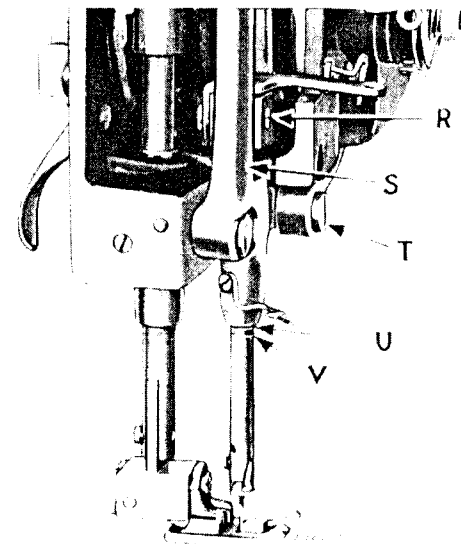
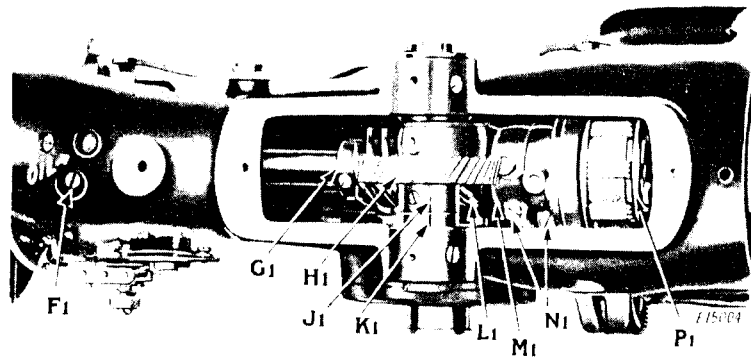
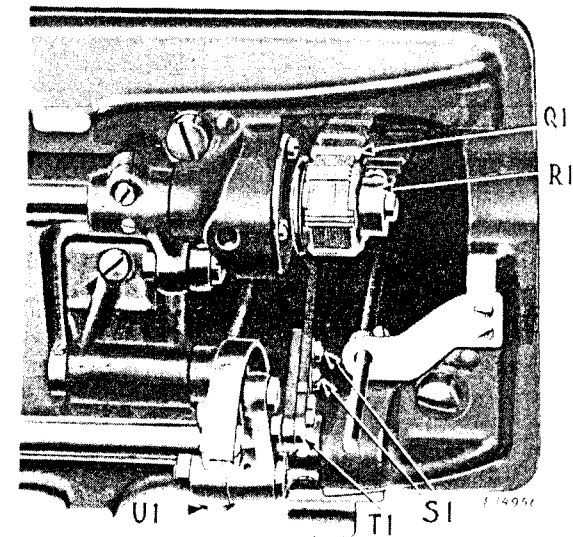

Fig. 20. Face Plate Removed
Fig. 21. Arm Cap Removed
Fig. 22. Return Feed Adjustment
Remove the throat plate and turn the balance wheel over toward you until the LOWER timing mark (V, Fig. 20) on the needle bar is just visible at the end of the needle bar frame (or until the needle has risen $\frac{3}{32}$ inch from its lowest position); if the needle and hook are in correct time, the point of the hook will be opposite the center of the needle.
To time the hook, loosen the set screws in the lower belt pulley (R1, Fig. 22) and turn the hook as required. Before tightening the set screws, see that there is no end play in the shaft.
(S, Fig. 20) stationary (no side movement). A straight needle should now come in the center of the needle hole in the throat plate. If it does not, loosen the set screw which holds eccentric stud (T, Fig. 20) and adjust the stud (T) until it does.
Now turn the needle vibrator regulating spindle head for the widest throw, and turn the balance wheel until the needle bar frame is at its extreme sidewise throw. The frame (S) should commence its sidewise movement at the same time that the needle starts upward from its lowest position. If it does not, the movement of the needle bar frame may be timed by turning the vibrator gear pinion (G1, Fig. 21) on the shaft.
See that the needle is up in the bar as far as it will go. There are two lines $\frac{3}{32}$ inch apart across the needle bar, about two inches above the lower end. When the needle bar is at its lowest position, the upper mark (U, Fig. 20) should be just visible at the lower end of the needle bar frame.
In case the needle bar is not correctly set, loosen the needle bar connecting stud set screw (R, Fig. 20) and move the needle bar to the correct position, then tighten the set screw.
To take up lost motion of the feed driving and lifting connections, adjust their pinch screws (N1, Fig. 21).
To prevent the feed dog from striking either end of the slots in the throat plate, loosen screw (U1, Fig. 22) and move the feed dog forward or backward until the longest stitch can be taken without the feed dog striking, then tighten the screw (U1).
Remove arm cap from top of machine. Turn the balance wheel over toward you until the needle bar frame (S, Fig. 20) is at its extreme left throw and the needle bar at its lowest position. The timing mark (J1, Fig. 21), on the hub of the gear (H1), should now be in line with the timing mark (K1) on the end of the bushing. If the two timing marks are not in line, loosen the screws in spiral pinion (L1, Fig. 21) on the arm shaft and turn pinion (L1) to right or left to bring them in line, then tighten the screws in the pinion.
Turn the balance wheel over toward you until feed control connection (T1, Fig. 22) is at its lowest position; loosen screws (S1) and lengthen connection to get more return feed or shorten the connection for less return feed, then tighten the screws (S1).
Slide the arm shaft connection belt (Q1, Fig. 22) off the lower pulley and lift it off the upper belt pulley (P1, Fig. 21). Loosen the set screws and remove the spot screws in the pulley (P1), the feed lifting eccentric (M1, Fig. 21), and the needle bar crank (F1). Loosen the screws in the gear pinion (L1) and the worm gear (G1), then draw the shaft out from the balance wheel end.
Slide the arm shaft connection belt (Q1, Fig. 22) off the lower pulley, and remove the balance wheel; loosen the arm shaft ball bearing bushing (back) set screw (D, Fig. 3) at the back of the arm, and remove the bushing; lift the belt up through the arm cap hole as far as possible and draw it out through the space formerly occupied by the bushing.